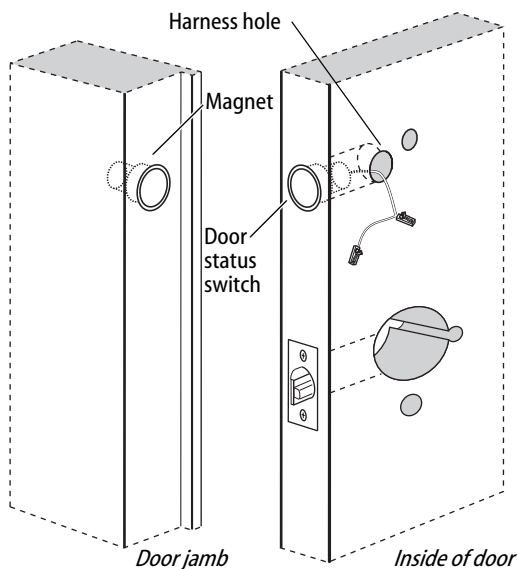

Figure 4 Installing the door status switch and magnet
- 4 Insert the door status switch assembly into the door status switch hole in the edge of the door, feeding the connectors out the harness hole to the inside of the door, as shown in Figure 4.